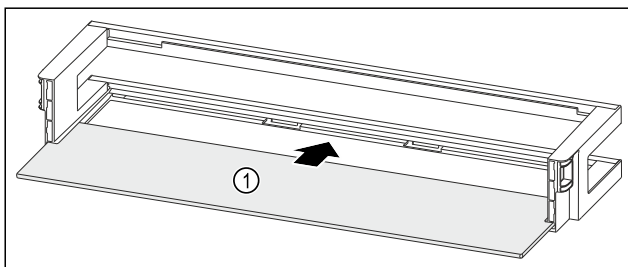

Fig. 94 Door rack with shelf
- Push the shelf *Fig. 94 (1)* into the side recesses.